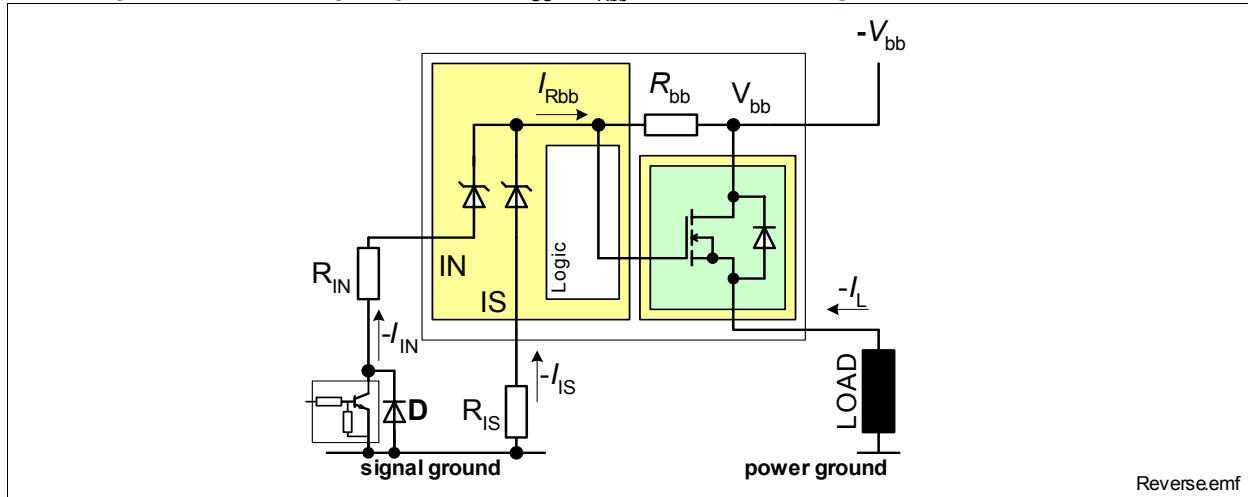

Figure 14 Reverse battery protection
4) Slew rate limitation can be achieved by means of using a series resistor for the small signal driver or in series in the input path. A series resistor R_{IN} in the input path is also required for reverse operation at $V_{bb} \leq -16\text{V}$. See also Figure 14.
The device can not block a current flow in reverse polarity condition. In order to minimize power dissipation, the device offers Reversafe® functionality. In reverse polarity condition the channel will be switched on provided a sufficient gate to source voltage is generated $V_{GS} \approx V_{Rbb}$. Please refer to **Figure 14** for details.